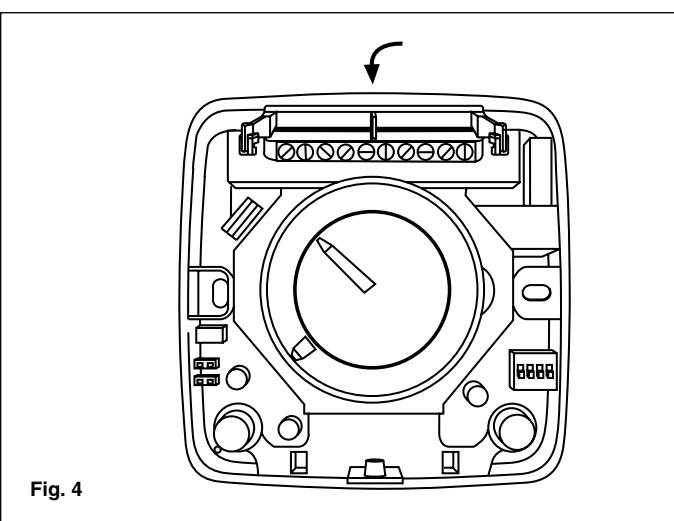

Fig. 4
- After connections to the terminal block have been made, replace the cable protection guard as shown in the figure (Fig. 4).
- Fix the control to the wall using the corresponding screw anchors ⑤.